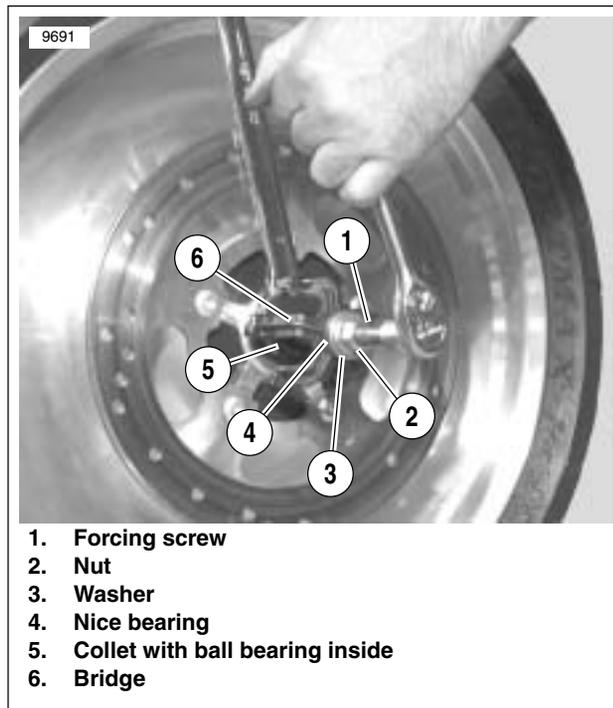
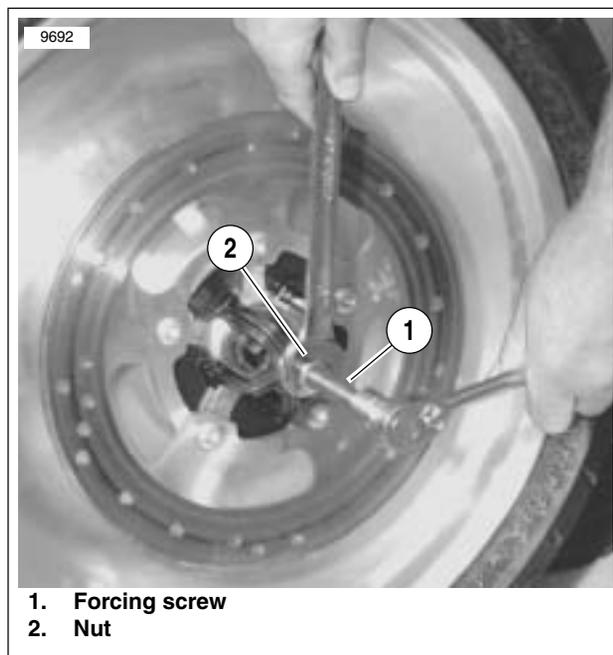

Figure 2-77. Gripping Bearing
Figure 2-78. Removing Bearing
- See Figure 2-77. Obtain WHEEL BEARING INSTALLER/REMOVER (Part No. HD-44060) and assemble tools required for bearing removal.
- Sparingly apply graphite lubricant to threads of forcing screw (1) to prolong service life and ensure smooth operation.
- Install nut (2), washer (3) and Nice bearing (4) on screw. Insert assembly through hole in bridge (6).
- Drop ball bearing inside collet (5). Fasten collet and ball bearing to forcing screw (1).
- Hold end of forcing screw (1) and turn collet (5) to expand edges of collet.
- See Figure 2-78. When expanded collet has gripped bearing edges, hold end of forcing screw (1) and turn nut (2) to remove bearing from wheel.